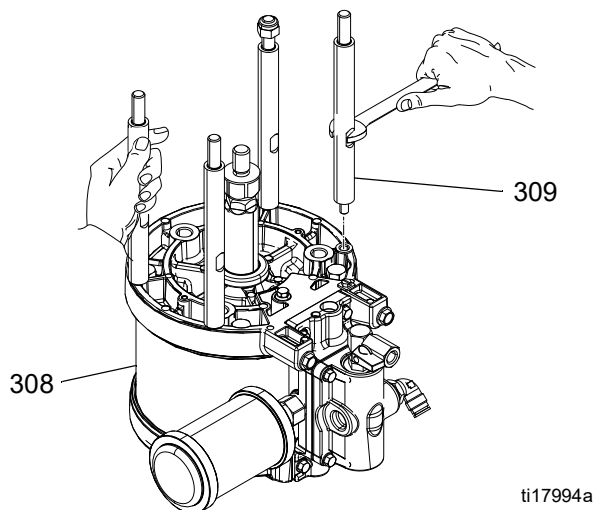

FIG. 3
2. Install tie rods (309) in the bottom of the air motor (308). See FIG. 3.